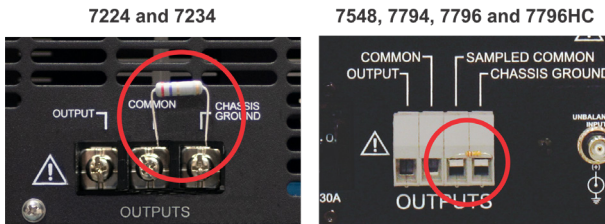

Figure 1 - Location of the 2.7-ohm resistor
2. Your 7000 Series amplifier has a 2.7-ohm resistor connected between the Common output terminal (7224 and 7234 amplifiers) or Sampled Common output terminal (all other 7000 series amplifiers) and the Chassis Ground terminal on the amplifier’s back panel. See **Figure 1**. This resistor **MUST** be removed before using the ESO-20/40 cable.